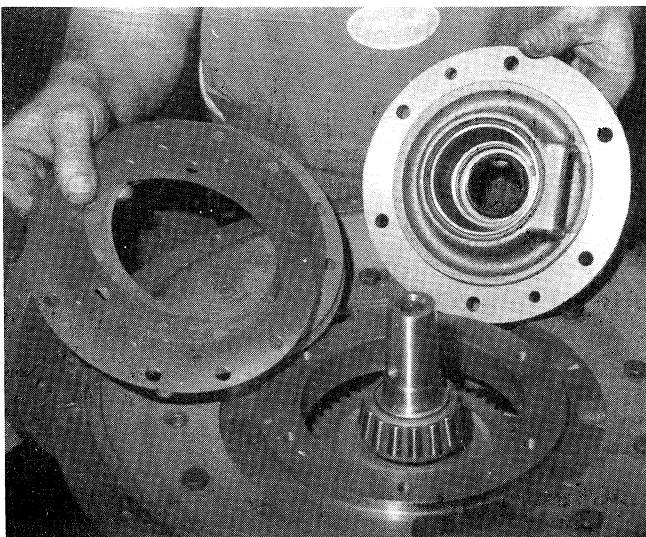

Figure 9-7. Installing shims and input bearing support.
2. Make up a shim pack (Figure 12-2, 8) (see Figure 9-7) equal to the space measured plus 0.005 inch.